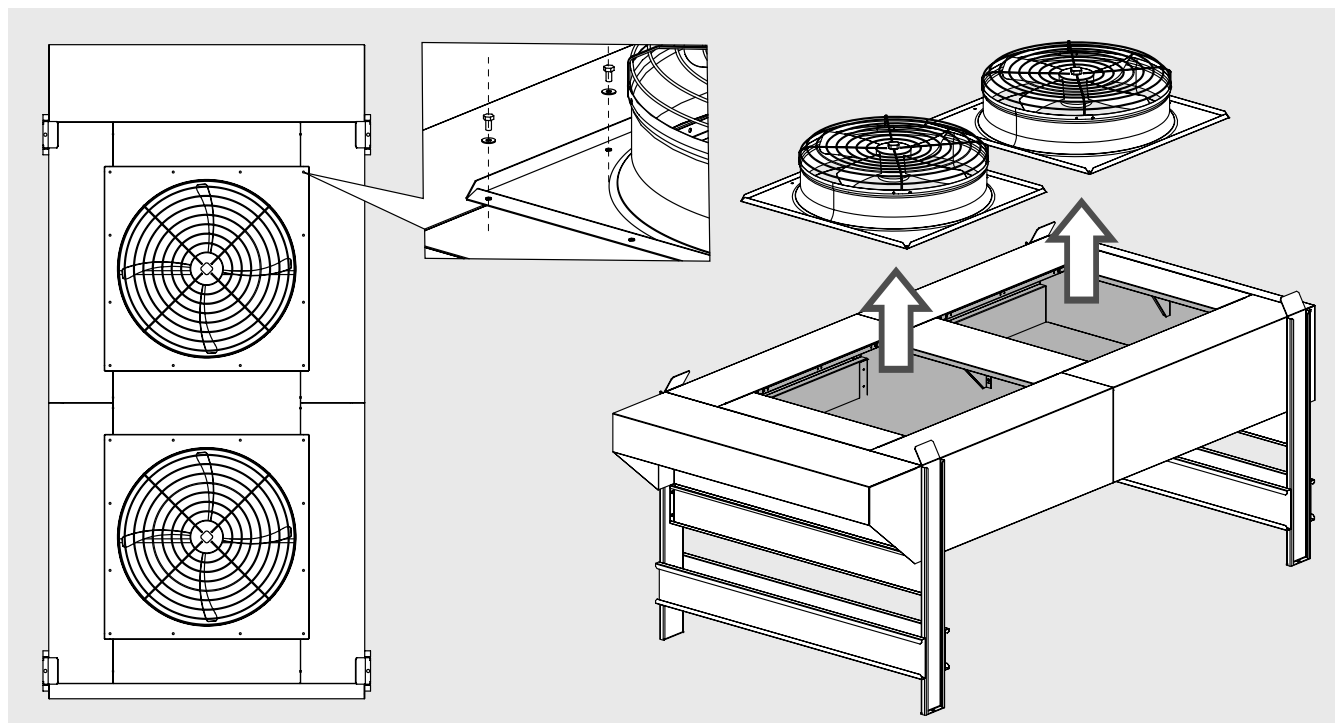

Figure 6
- 8.9 Locate the screws that fix the group fan-shroud - motorfan to the model. Unscrew them and remove the group. Please notice: the position of the screws can be different depending on the model. "Figure 6" below shows a generic EG model: on Junior, Jumbo and Giant EG models the procedure is the same.